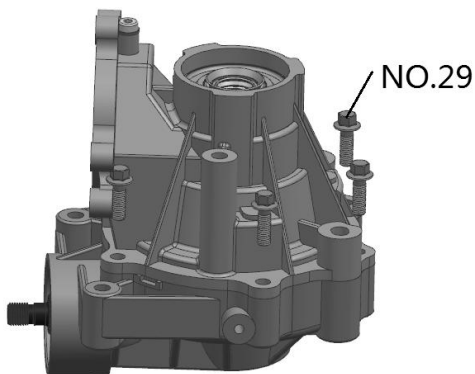

**Fig 11**
**11.** Assemble the gearcase halves and install the bolts (NO.29) that secure the cover to the housing. Torque the bolts in a criss cross pattern to 20~25Nm. →Fig 11